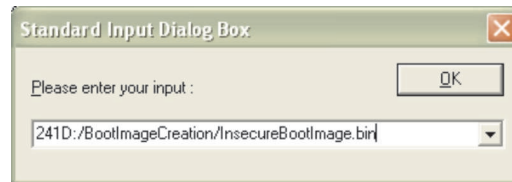

Figure 20. Input Dialog Box
9. Enter `241:<BootImageCreation Folder>\InsecureBootImage.bin` and press OK in the popup window shown in Figure 20.